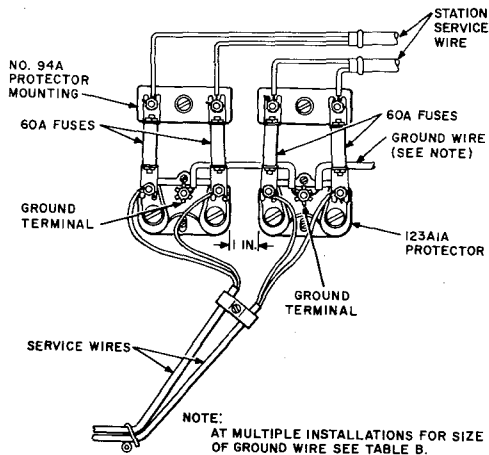

Fig. 69—Fuseless Protectors
11.03 Typical wall and pole installations, using protectors for cable protection, are shown in Fig. 69, 70, 71, 72, and 73.